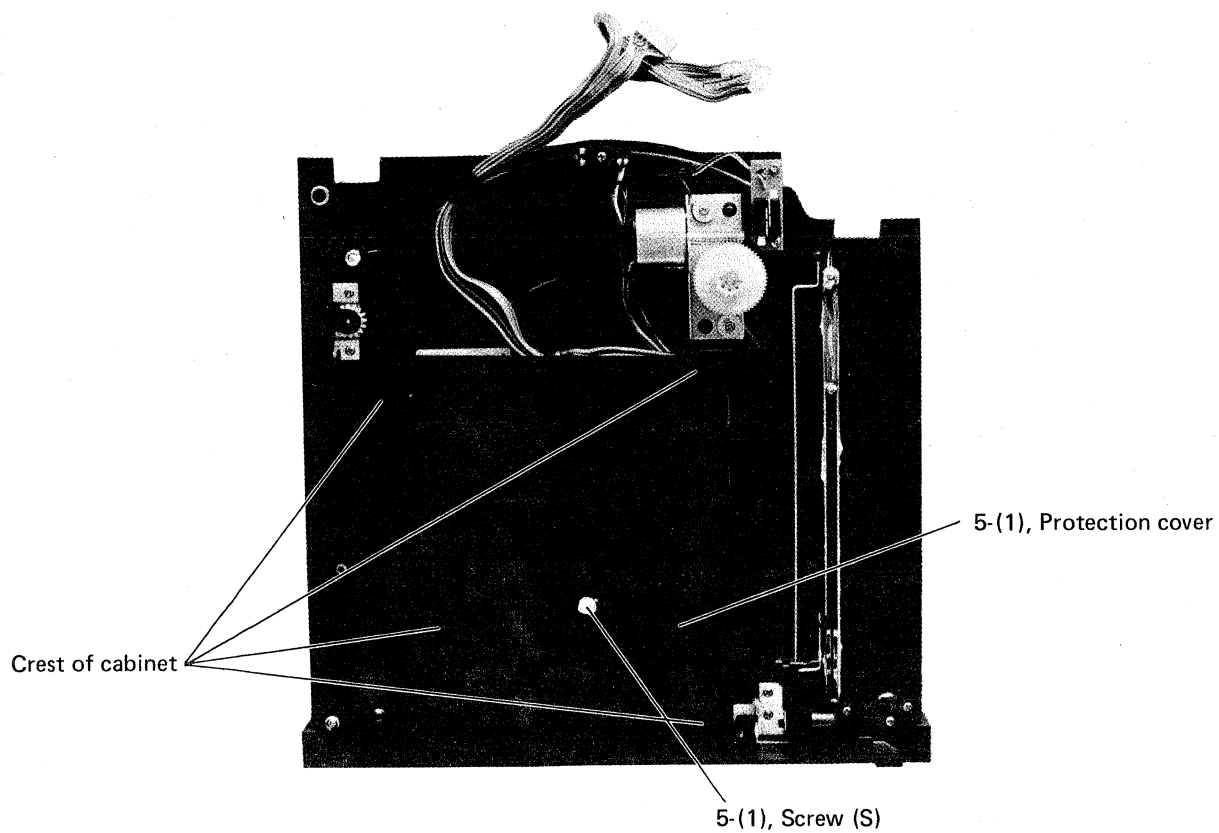

Fig. 16
- (1) Dismount protection cover. (See fig. 16)